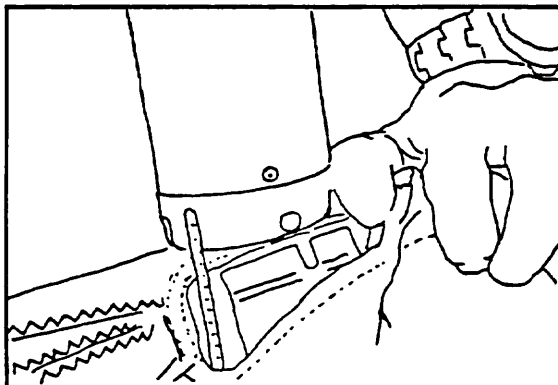

Figure 9
5) Spread the wings almost all the way. Lift the kingpost, remove the top kingpost protector, and set the kingpost on the kingpost base ridge on the keel, *making sure the CG locating pin engages in the slot in the track.* (Figure 9 and 10)